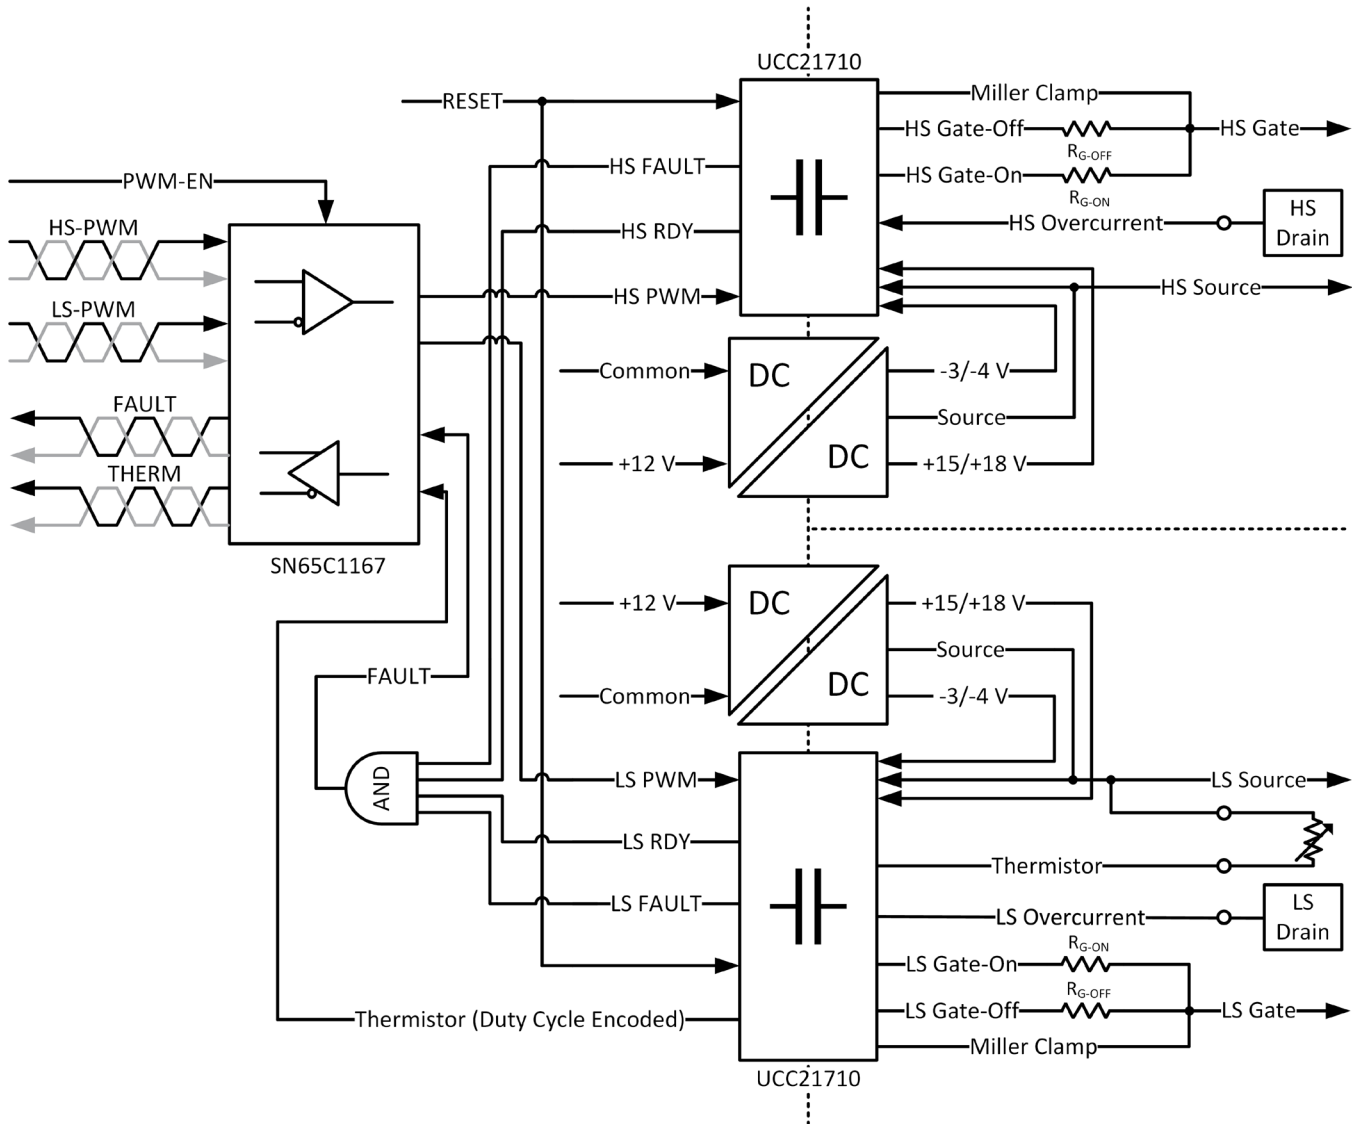
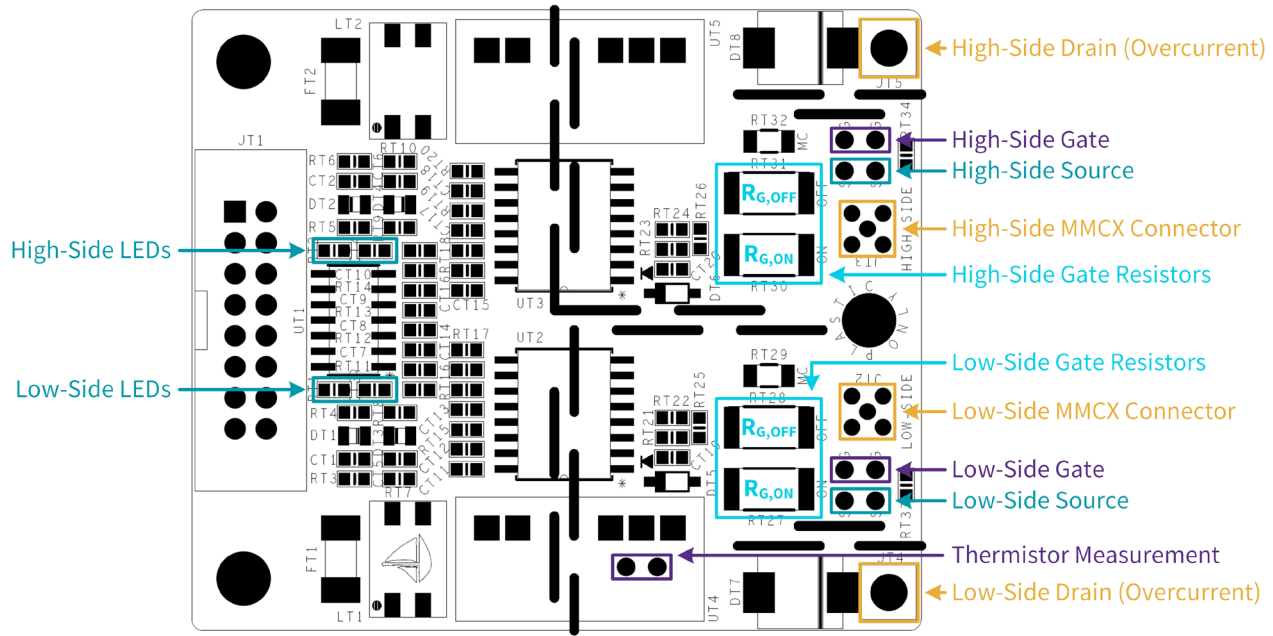

Figure 3: Block diagram of CGD1700HB2M-UNA gate driver
Figure 4: Interface of CGD1700HB2M-UNA gate driver
A block diagram of the full gate driver is shown in Figure 3. Both channels (high- and low-side) include a dedicated isolated DC/DC converter and gate driver integrated circuit (IC) for independent modulation of the respective channels. The gate driver communicates with a controller via differential signaling for both input and feedback signals. The gate driver combines all onboard fault signals (i.e. overcurrent and power faults for both channels) into a single global fault signal which is transmitted to the controller to indicate the board status. The board includes an overcurrent detection circuit, independent turn-on and turn-off resistors, Miller clamp, and thermistor feedback. Some notable interface features on the board are indicated in Figure 4.